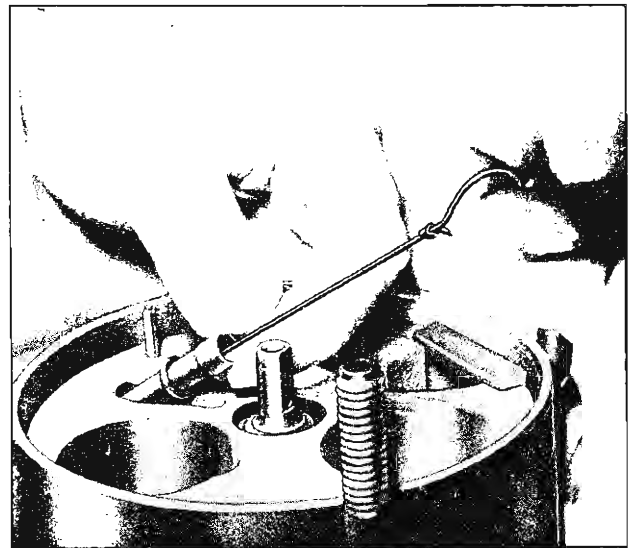

Fig. 29—Removing Oil Inlet Tube and "O" Ring
2. Remove the oil inlet tube and "O" ring with J-5139 as shown in Figure 29.